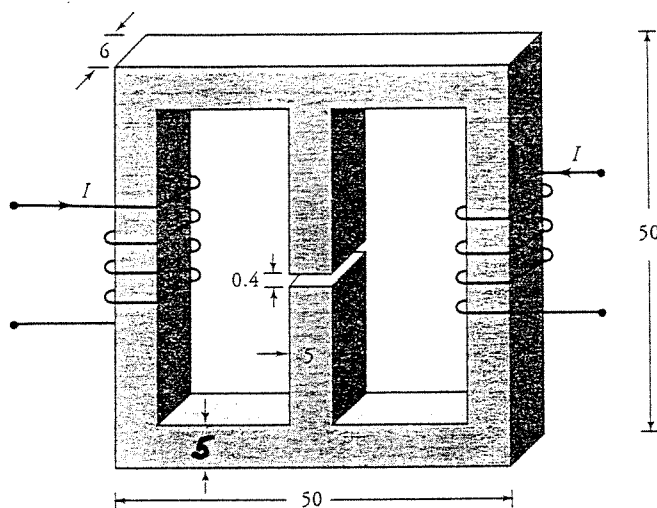
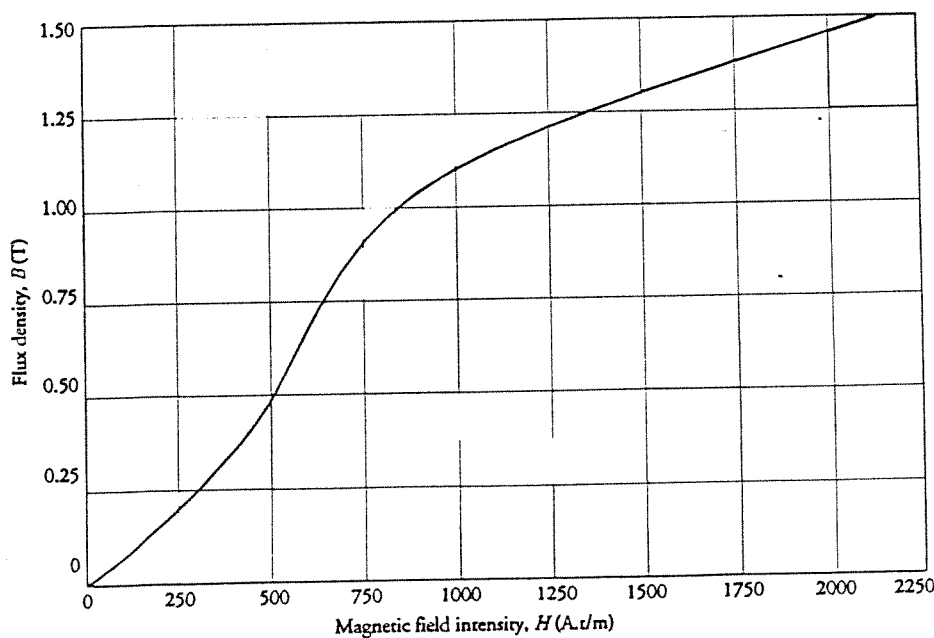

Figure 2
Figure 3
- a. For the magnetic circuit shown below in Figure 2, the core material is silicon steel, for which the magnetization curve is given in Figure 3. Each coil has 500 turns. What current is needed if we wish to establish a flux of 3.6 mWb in the air-gap by applying the same current to both windings? Fringing can be neglected, but the effect of the core must be considered.